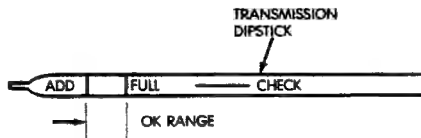

Fig. 1 Transmission Fluid Level
(1) Be sure transmission fluid is at normal operating temperature. Normal operating temperature is reached after approximately 15 miles (25 km) of operation.
(2) Position the vehicle on a level surface. This is important for an accurate fluid level check.
(3) Shift the transmission through all gear ranges and back to Neutral.
(4) Apply the parking brakes.
(5) Verify that the transmission is in Neutral.
(6) Wipe off the dipstick handle to prevent dirt from entering the fill tube. Then remove the dipstick and check fluid level and condition.
(7) Correct fluid level is to the **FULL** mark on the dipstick when the fluid is at normal operating temperature (Fig. 1).
(8) If fluid level is low, top off the level with Jeep Mercon™, transmission fluid. Mopar Dexron II™ may also be used if Mercon is not available. Do not overfill the transmission. Add only enough fluid to bring the level to the **FULL** mark.